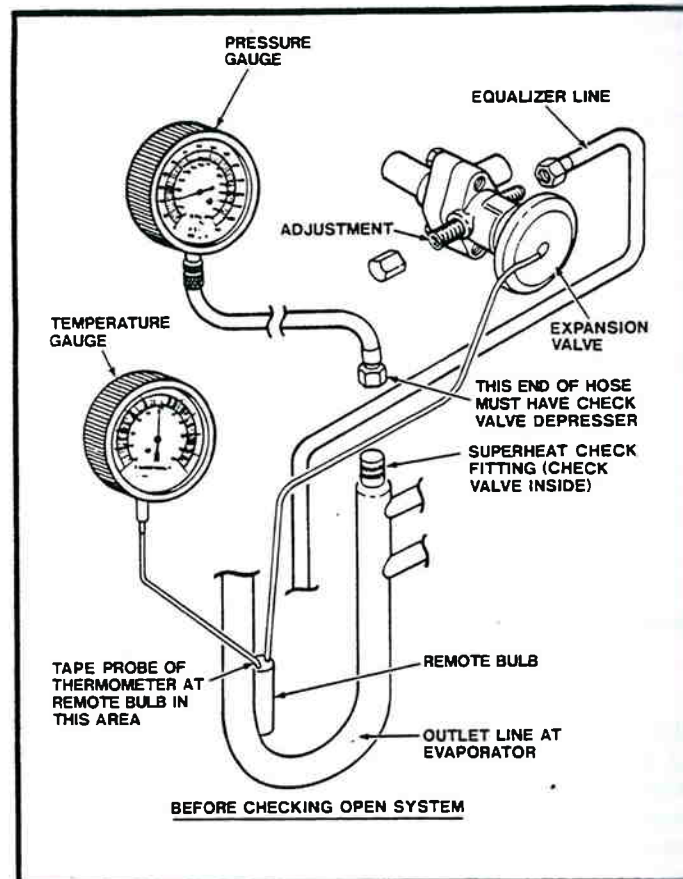

Figure 16-19: Gauges installed for Superheat Adjustment
2. Refer to figures 16-19 and 16-20. Install a pressure gauge at the fitting of the evaporator expansion valve. The hose end with the check valve depressor is connected to the fitting with the valve stem.
2. See figures 16-19 and 16-20. At the expansion valve, disconnect the external equalizer line from the underside of the power head and unclamp the remote control bulb from the evaporator coil outlet line.